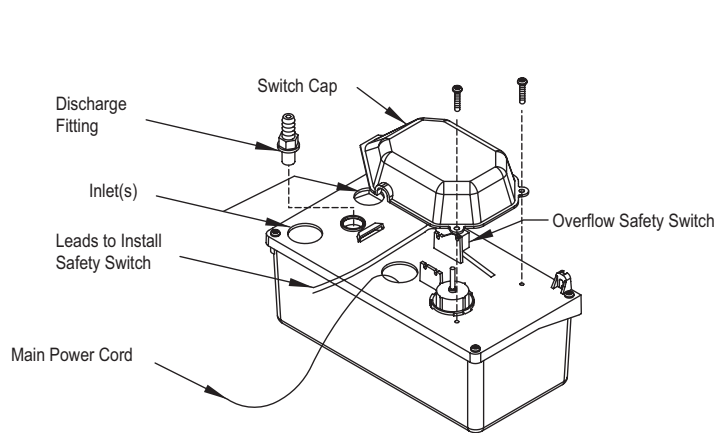
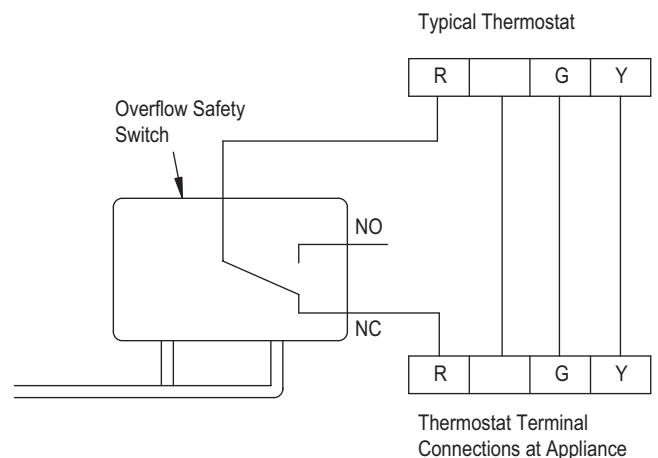

Figure 4.1
Figure 4.2
- 4.1) The unit can be wired directly to the appliance thermostat to shut the pump and the appliance down in the event pump fails. Refer to Figure 4.1 for access to the Safety Switch. Refer to Figure 4.2 for typical wiring diagram.